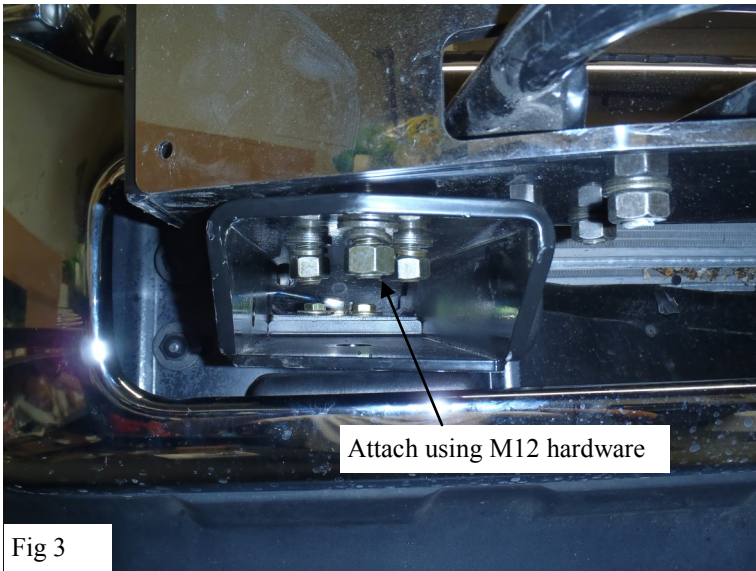

Fig 3
5. **For 2008—10 vehicles:** Take the drivers side mounting bracket and place it on top of the frame. Attach the mounting bracket to the tow hook mounting point using (3) M10 hex head bolts, (6) M10 flat washers, (3) M10 lock washers, and (3) M10 hex nuts. Attach the bracket to the inner side of the frame using (2) M12 hex head bolts (4) M12 flat washers, (2) M12 lock washers, and (2) M12 hex nuts. No spacers are needed. Do not fully tighten at this time.
7. Take the winch tray and set it on top of the installed mounting brackets, attach using (6) M12 hex head bolts, (12) M12 flat washers, (6) M12 lock washers, and (6) M12 hex nuts. Do not fully tighten at this time Fig 3.